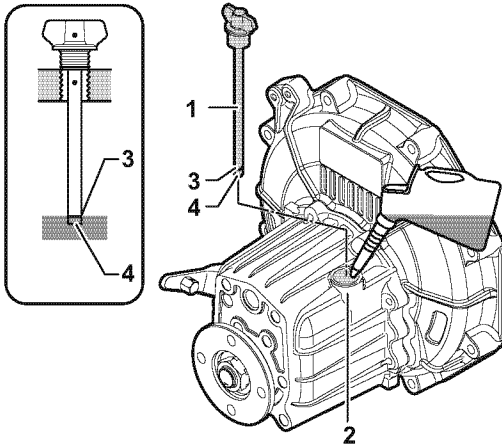

Figure 6
1. Turn the engine off. Make sure the engine is as level as possible and wipe area clean around the marine gear filler port (**Figure 6, (2)**).
3. Remove the dipstick (**Figure 6, (1)**) and wipe with a clean cloth.
4. Re- insert the dipstick without screw in, please see illustration (**Figure 6**).
5. Remove the dipstick. The oil level should be between the upper (**Figure 6, (3)**) and lower (**Figure 6, (4)**) lines on the dipstick.
2. Remove the filler cap / dipstick (**Figure 6, (1)**) at the top of the housing.
3. Fill with oil to the upper limit on the dipstick (**Figure 6, (3)**).